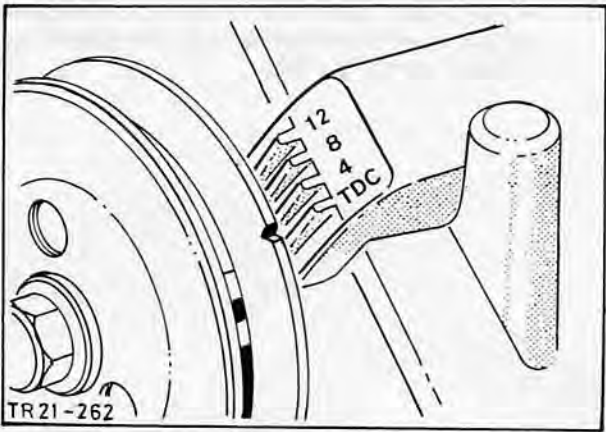

Fig. 167. Pulley on TDC mark
2. During adjustment of valve clearances, crank engine only in direction of normal rotation. For first valve adjustment, align crankshaft pulley mark with TDC mark on timing cover, Fig. 167.